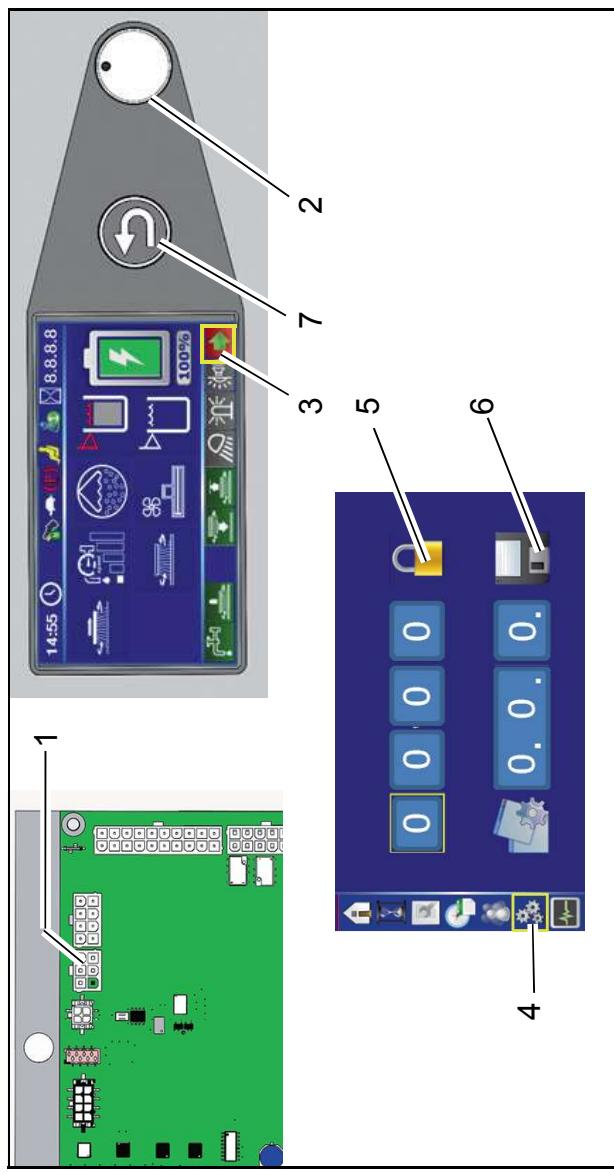

Fig. 7
Plug diagnosis plug into slot X20 of controller A1 (Fig. 7/1).
2. Select the arrow soft key (Fig. 7/3) on the control panel using the turn-push knob (Fig. 7/2) and press to access the sub-menu.
3. Select the configuration menu in the sub-menu (Fig. 7/4).
4. Enter the 4-digit code in the configuration menu at the top (Fig. 7/5);
5. In the configuration menu at the bottom (Fig. 7/6), set the value of the option and save by pressing the turn-push knob. After confirming the last digit, OK? appears. Press the turn-push knob again to save the value. Saved value is displayed in green.
If the value is not to be saved, exit menu using the return key (Fig. 7/7).